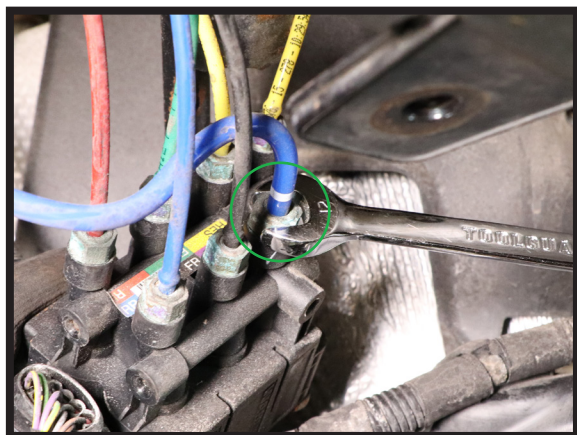

FIGURE 21
12. REMOVE THE AIR LINE THAT LEADS TO THE COMPRESSOR FROM THE VALVE BLOCK. (FIGURES 21, 22)